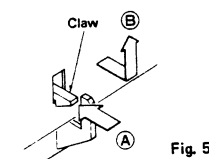

Fig. 5
3. Push the 3 claws [one by one] in the direction of the arrow (A) in Fig. 5, and remove the servo P.C.B. by pulling it in the direction of the arrow (B).